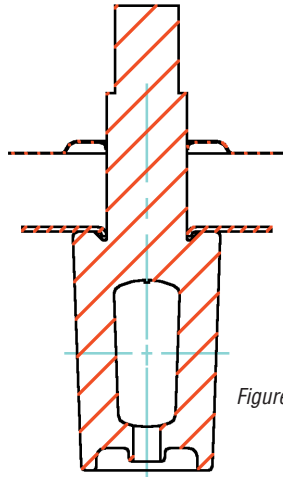

*Figure 19*
6. The metal diaphragm is removed from and replaced on the plug stem with the ID lip down (Figure 19).